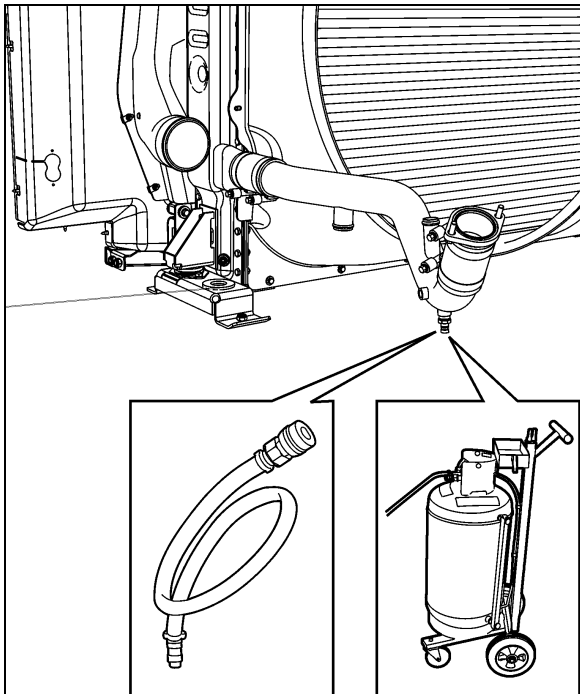

FIGURE 7: EXTRACTING COOLANT 05093
5. Connect coolant extractor (Figure 7). Use coolant extractor to drain the coolant from the engine. An alternate method is to drain the coolant into a suitable container using the drain hose.
4. Connect coolant extractor (Figure 7). Use coolant extractor to drain the coolant from the engine. An alternate method is to drain the coolant into a suitable container using the drain hose.